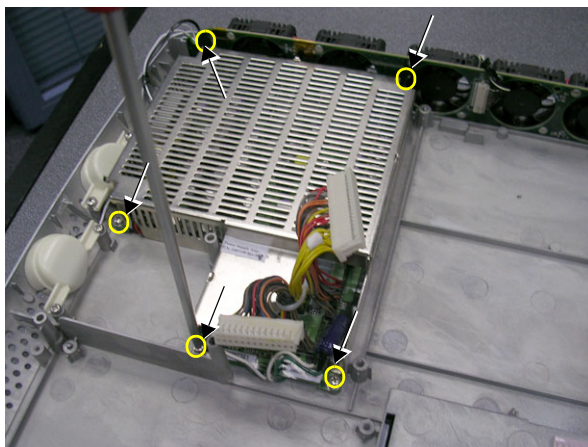

Figure 8-63 Loosening the Screws on the DC Power Supply
- 4) Loosen the five screws that secure the DC Power Supply to the Bottom Assembly, as shown in Figure 8-63 below.
- 2) Return the five screws and fasten the HVPS in position on the Bottom Assembly, as shown in Figure 8-63 on page 8-54.